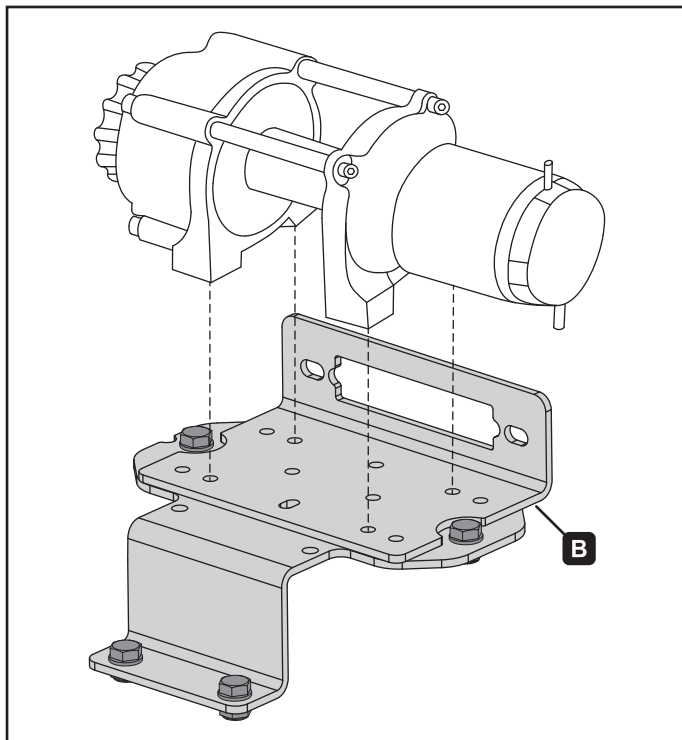

Figure 2.
3. Install your winch and the fairlead bracket (B) to the winch mount (A) with the hardware included with your winch. See figure 2.